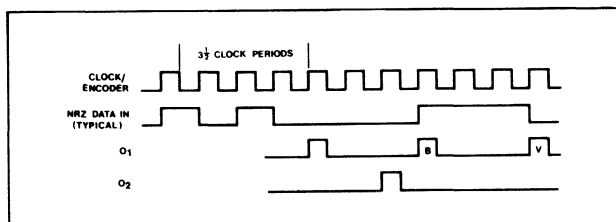

Fig. 3 Encode waveforms
- The Encoded ternary outputs (O_1 , O_2) are delayed by $3\frac{1}{2}$ clock periods from NRZ data in (Fig.3).